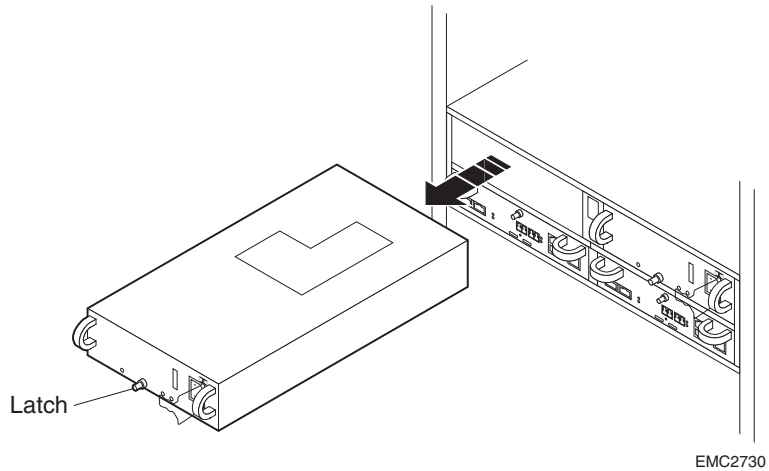

Figure 3-14 Removing a Power Supply/System Cooling Module
2. Turn the latch counterclockwise to release the module, and then remove it as shown in Figure 3-14.